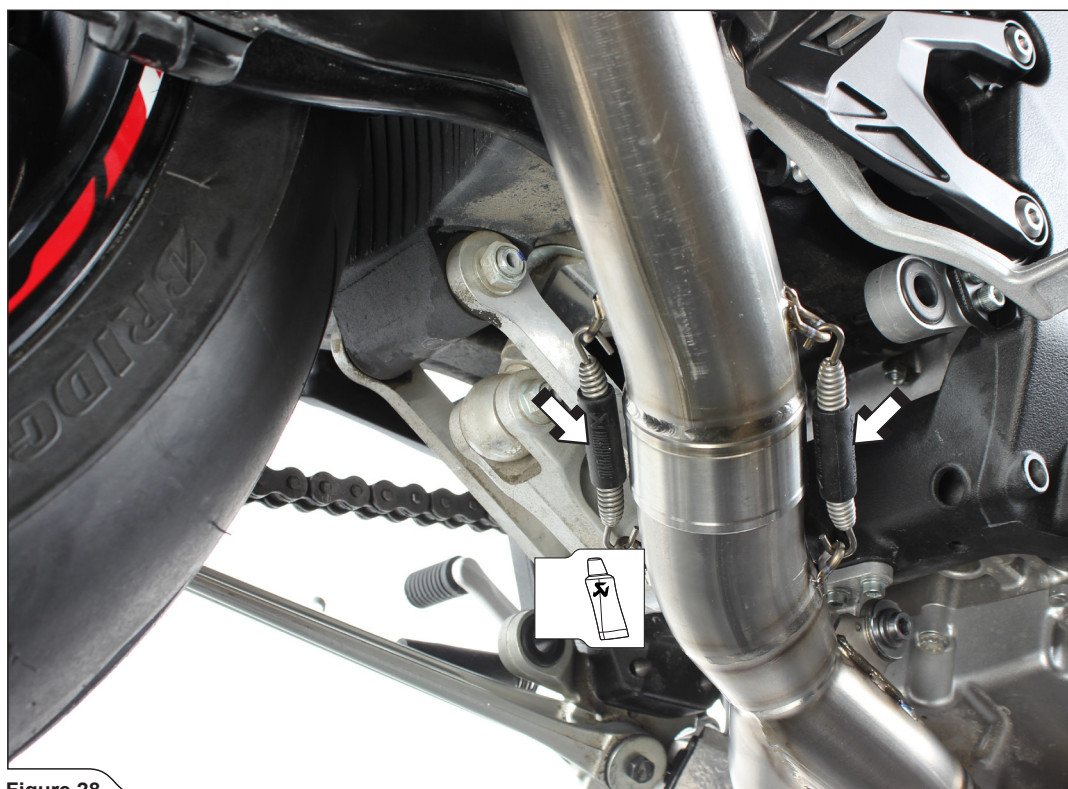

Figure 28
5. Slide the muffler onto the collector, attach the springs and tighten the muffler's bracket, using bolt, washers and nut from Akrapovič installation kit (Figure 28, 29).